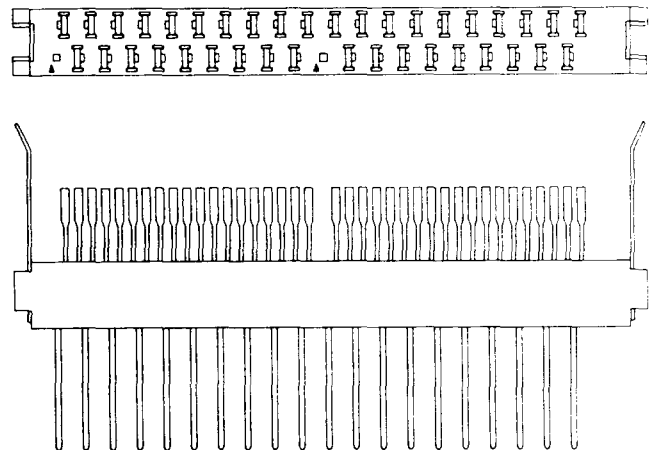

Fig. 6—925C or D Connectors
2.08 925C and D: The 925C and D connectors (Fig. 6) consist of a molded housing of colored insulating material containing 38 terminals. The terminals on the terminal end are arranged for solderless wire wrap connection using 22- through 26-gauge wire. The connectors are able to mate with the 919A or 922A connectors and are used in the No. 101 ESS.